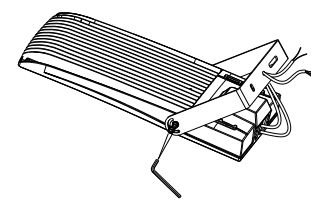

Figure 9
Step 1: Put the input wire of the light across the bracket., Fix the bracket. (Figure 9)